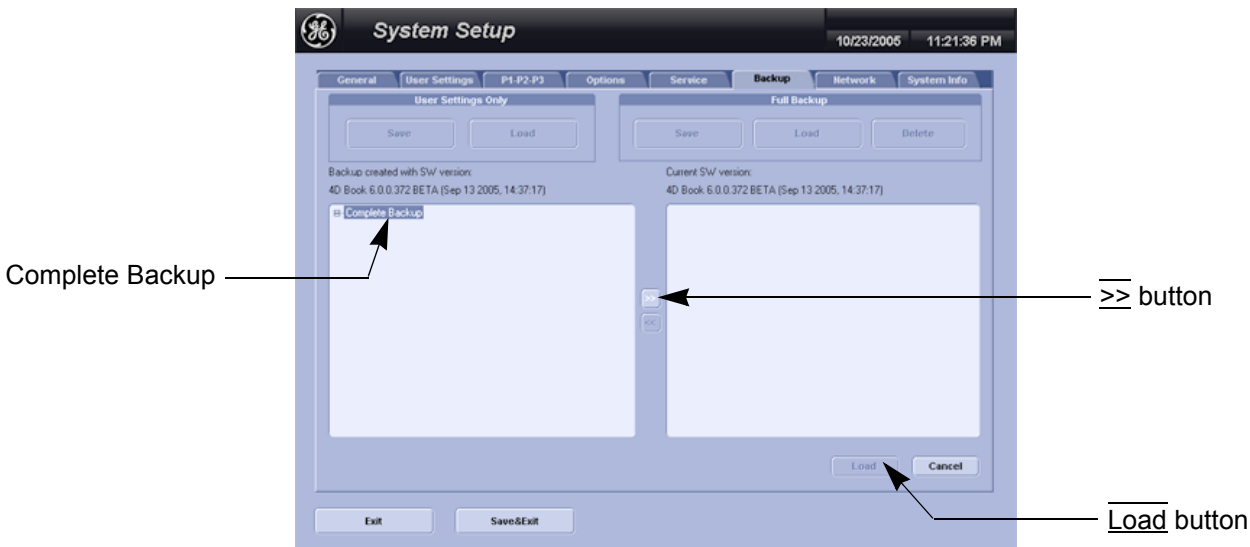

Figure 4-20 Load Backup Data
- 2.) Select the **Complete Backup** (marked blue; see: Figure 4-20 on page 4-30) and click the  $\gg$  button to copy the Complete Backup into the Load Data field.